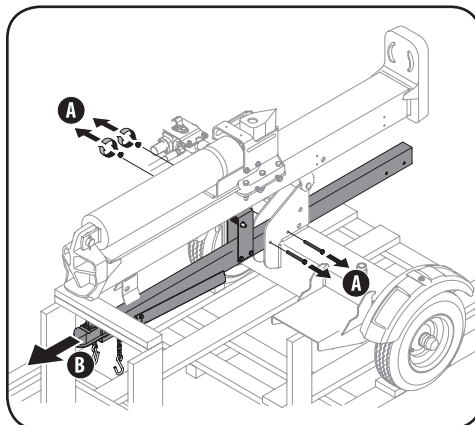
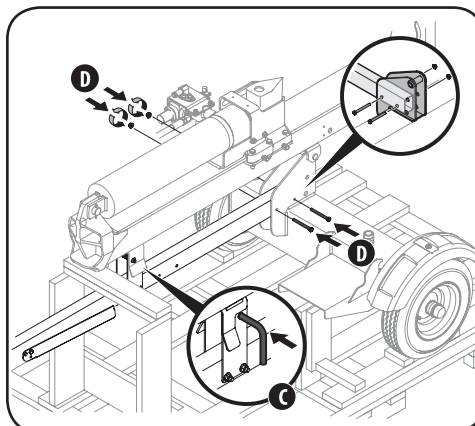

Figure 3-2
Figure 3-3
For shipping purposes, the tongue tube is secured to the log splitter frame near its center. To reposition it, refer to Figure 3-2 and Figure 3-3 and proceed as follows:
2. Remove the pair of hex screws and flange nuts securing the tongue tube to the log splitter frame. See A in Figure 3-2.
3. Carefully slide the tongue tube toward the front of the machine. See B in Figure 3-2.
4. Pull the beam lock outward, line it up with the hole in the beam bracket and release the beam lock. See C in Figure 3-3.
5. Fasten the tongue tube to the frame by reinstalling the two hex screws removed in Step 1 and tightly securing with the two flange lock nuts. See D in Figure 3-3.